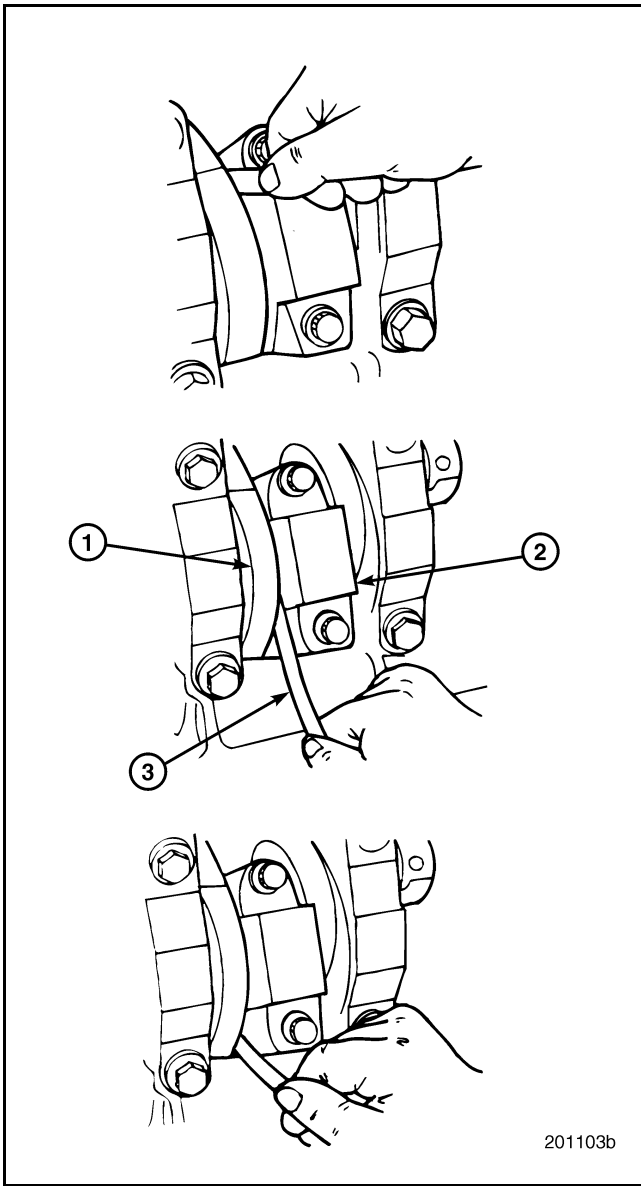

Figure 245 — Connecting Rod Side Clearance Check
8. Check the rod side clearance (Figure 245) by installing a thickness gauge between the rod and the side of the journal. Check along the entire parting line area.